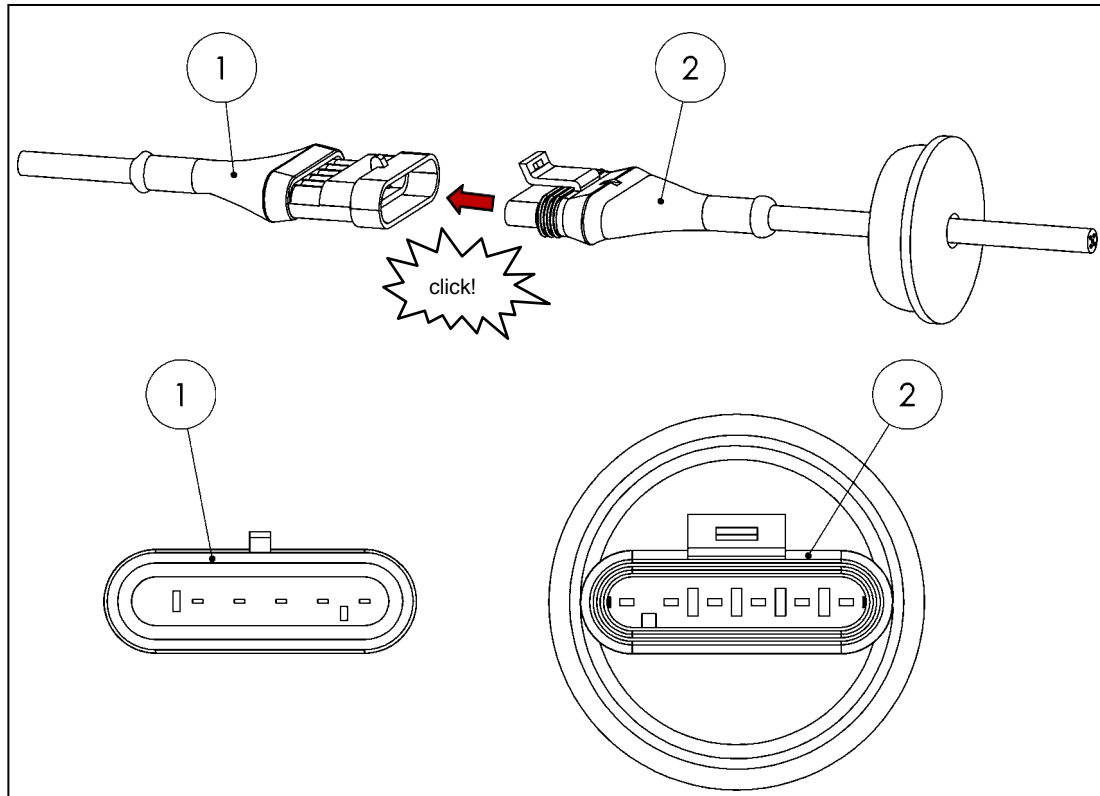

Figure 66
- Connect the platform cable connector (1) to the control unit connector (2) (see Fig. 66).